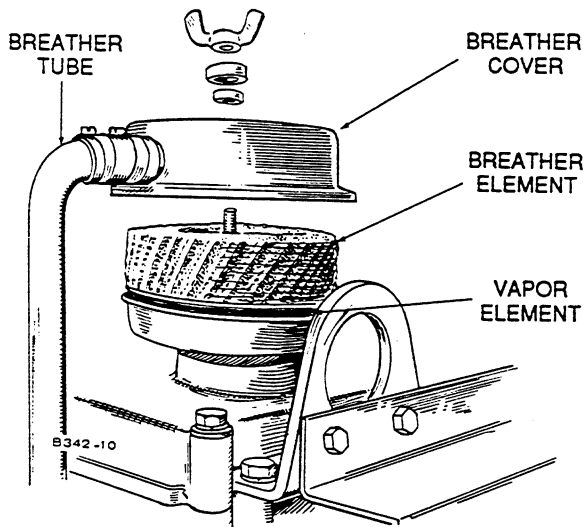

FIGURE 8. CRANKCASE BREATHER FILTER
1. Remove wing nut, flat washer and rubber washer holding cover, lift cover and swing away from filter assembly (see Figure 8).